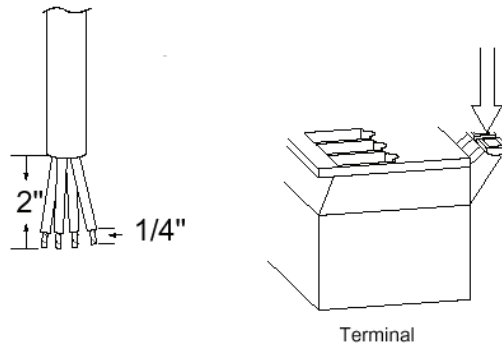

Figure No. 6
4. Remove 2" of the outer insulation jacket then remove 1/4" of insulation from each of the wires (refer to the Figure No. 6).